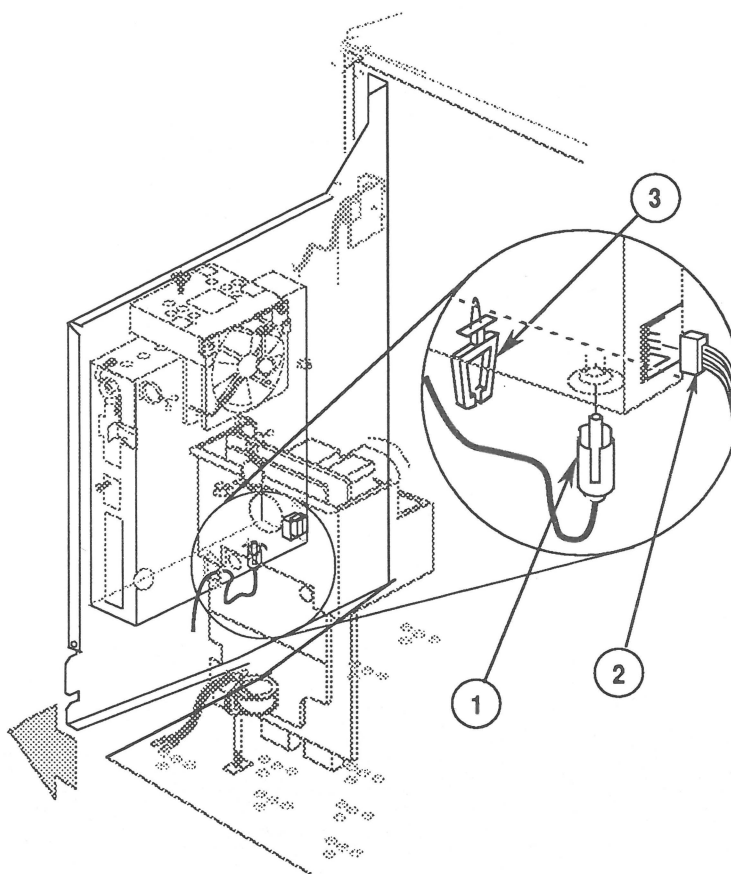

FIGURE 19
7. Pull open slightly (see Figure 19) the left chassis panel to access the two cables (Figure 19, #1 and #2) at the bottom and front of the video board.
8. Remove the video cable (Figure 19, #1) from the cable clamp (Figure 19, #3) beneath the video board case, and disconnect the cable from the video board.
9. Disconnect the small LED connector (Figure 19, #2) from the video board.